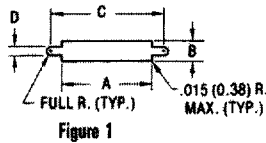
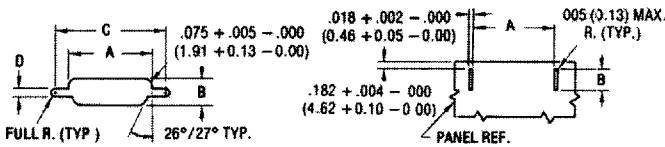

Figure 1
Figure 3 Rear Mounting
Mounting Screw Brackets (see Figures 1 and 3)
2. Front mounting is preferred. However, when rear mounting is necessary, use figure 3 for dimensions.
5. Front mounting (Fig. 1) and rear mounting (Fig. 3) accommodate #2-56 screws when jackscrews are used. See detail on page 24 when jackposts are used.